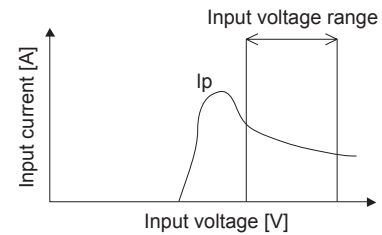

Fig.3.2 Input Current Characteristics
- Choose a front end power supply that can supply enough current I_p (Fig. 3.2) for starting up the power module.